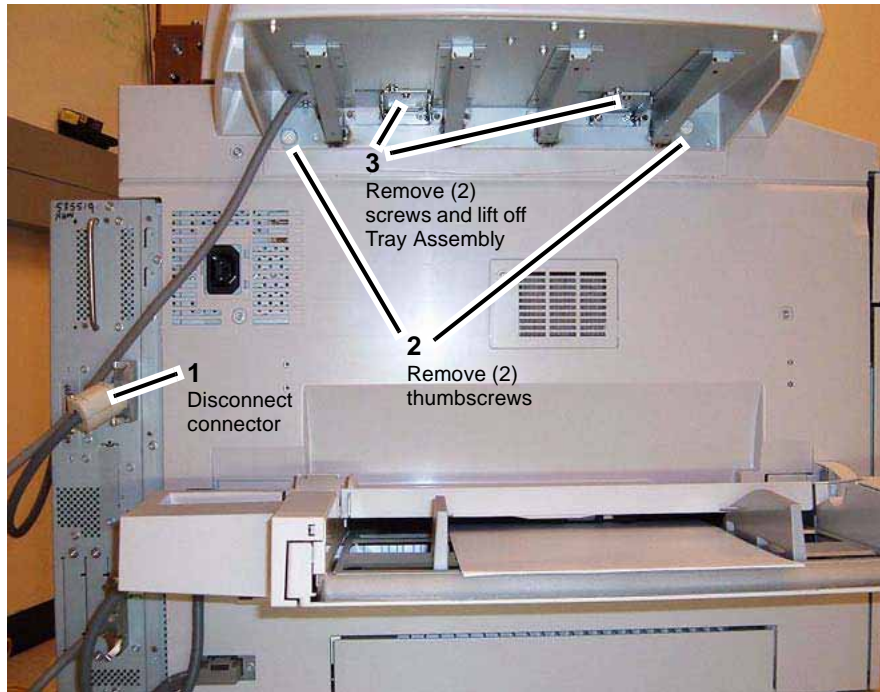

Figure 1 Removing the Tray Assembly and attached UI
1. Remove the Tray Assembly and attached UI from the left side of the copier/printer. Figure 1